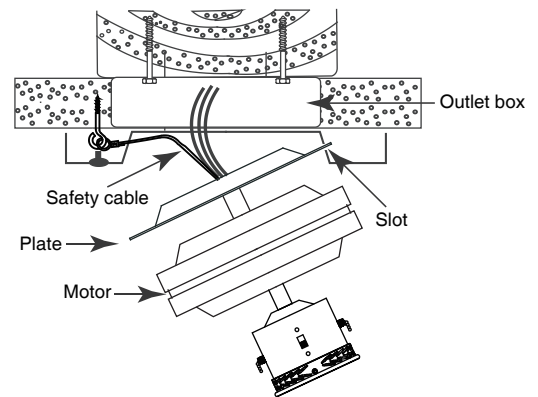

Fig. 4
2. Carefully lift the fan motor assembly (without the blades) and insert the plate of the fan motor assembly into the slot in the mounting bracket as shown in Fig. 4.
3. Screw the hook screw to the building structure. Hook the safety cable to the hook screw as shown in Fig. 4.